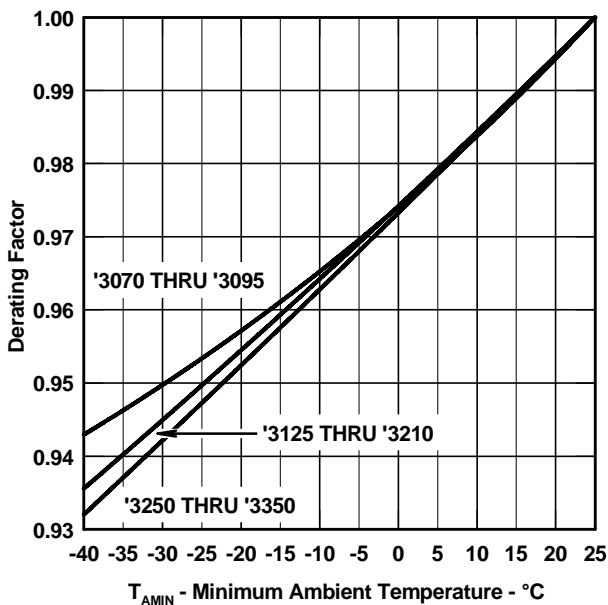

Figure 9.
- NOTES: 1. See Figure 9 for voltage values at lower temperatures.
Figure 9 allows the calculation of the protector V_{DRM} value at temperatures below 25 °C. The calculated value should not be less than the maximum normal system voltages. The TISP3290H3, with a V_{DRM} of 220 V, can be used for the protection of ring generators producing 105 V rms of ring on a battery voltage of -58 V. The peak ring voltage will be $58 + 1.414 \cdot 105 = 206.5$ V. However, this is the open circuit voltage and the connection of the line and its equipment will reduce the peak voltage.
For the extreme case of an unconnected line, the temperature at which clipping begins can be calculated using the data from Figure 9. To possibly clip, the V_{DRM} value has to be 206.5 V. This is a reduction of the 220 V 25 °C V_{DRM} value by a factor of $206.5/220 = 0.94$. Figure 9 shows that a 0.94 reduction will occur at an ambient temperature of -32 °C. In this example, the TISP3290H3 will allow normal equipment operation, even on an open-circuit line, provided that the minimum expected ambient temperature does not fall below -32 °C.